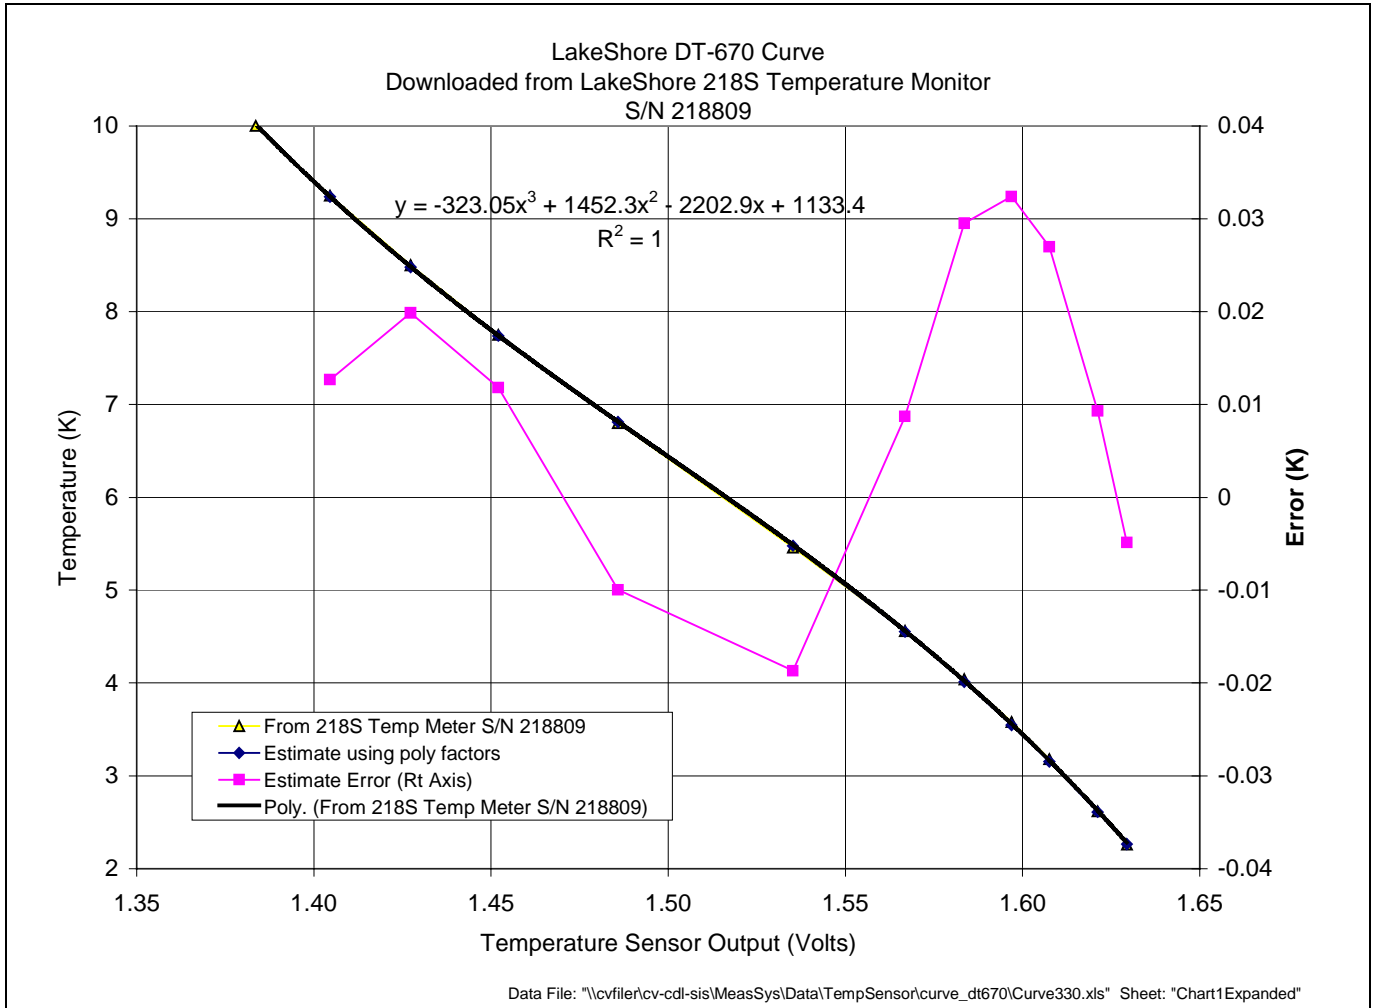

Figure 2: Temperature Sensor Curve Polynomial Approximation
- From the temperature vs. voltage breakpoint curve obtained in 1 above, generate a 3rd order polynomial to approximate the measured points between 2K and 10K as shown in Figure 2. This equation, valid from 2K and 10K, is
The curve labeled “Estimate Error” in Figure 2 shows the goodness-of-fit is about ± 0.03 K between temperatures obtained from the polynomial and the temperature-voltage pairs downloaded from the temperature monitor.